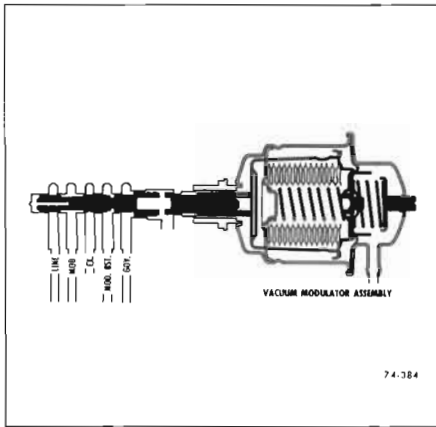

Figure 74-14—Modulator Valve
**f. Modulator Valve (See Figure 74-14)**